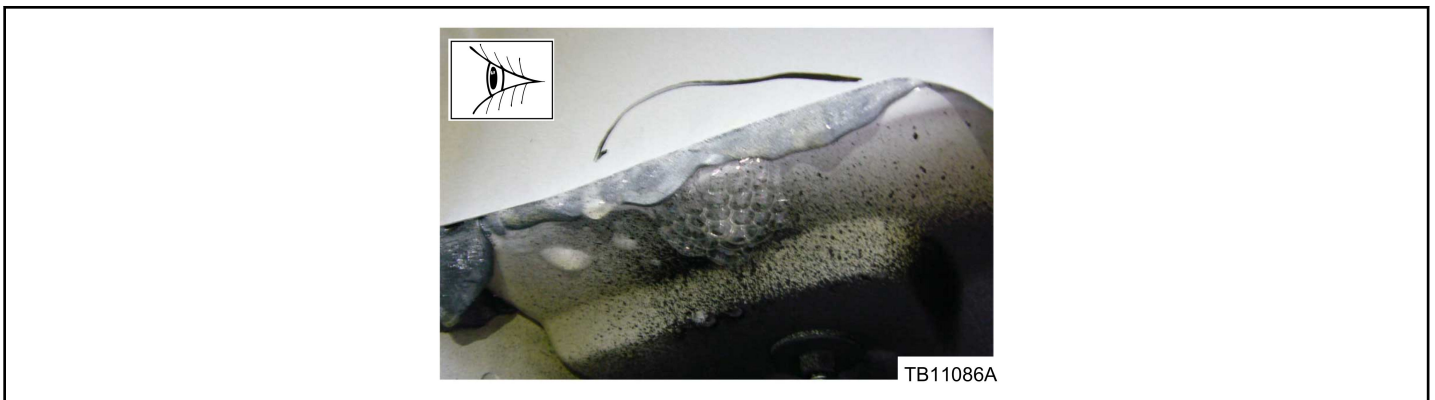

Figure 18 - Article 17-0044
16. Inspect the area behind the wheel arch and reseal if necessary. (Figure 18)